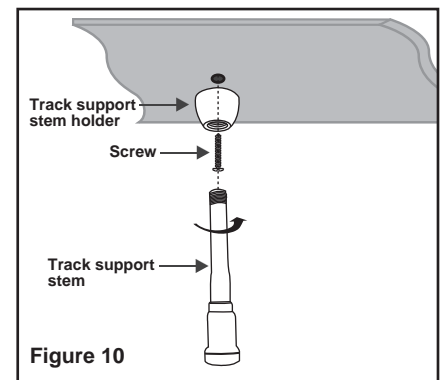

Figure 10
5. Loosen the track support stem holder from the track support stem assembly and secure the track support stem holder into the anchor with tapping screws until it is in place. Secure the track support stem assembly to the threaded track support stem holder. Repeat steps for the remaining track support stems. (Fig. 10)